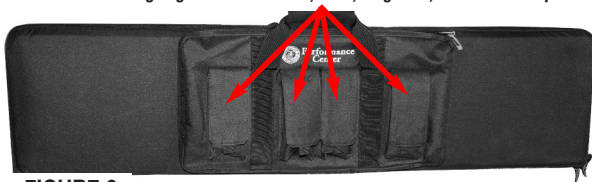

FIGURE 3
- Your T/C® Performance Center® LRR™ rifle is shipped from the factory with the bolt, magazine and bipod housed in the pockets on the drag bag (FIGURE 3).
- Your T/C® Performance Center® LRR™ rifle comes completely assembled from the factory except for the bolt and magazine, which have been removed for transportation and storage. The bolt and magazine are packed separately in the pockets of the drag bag (FIGURE 3).